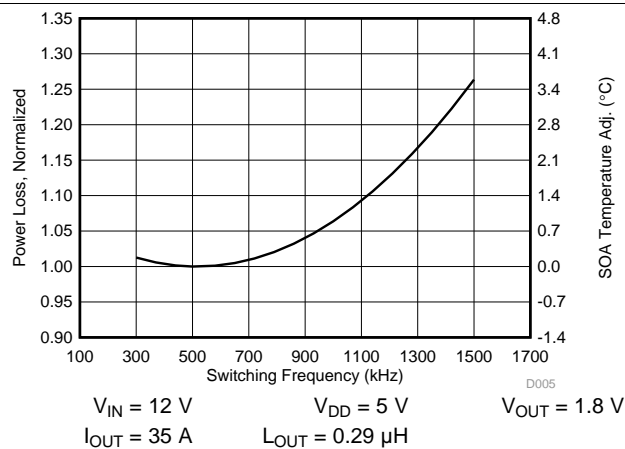

Figure 8. Normalized Power Loss vs Frequency
- Normalized power loss for switching frequency ≈ 1.02 (Figure 8)
- SOA adjustment for switching frequency $\approx 0.3^\circ\text{C}$ (Figure 8)